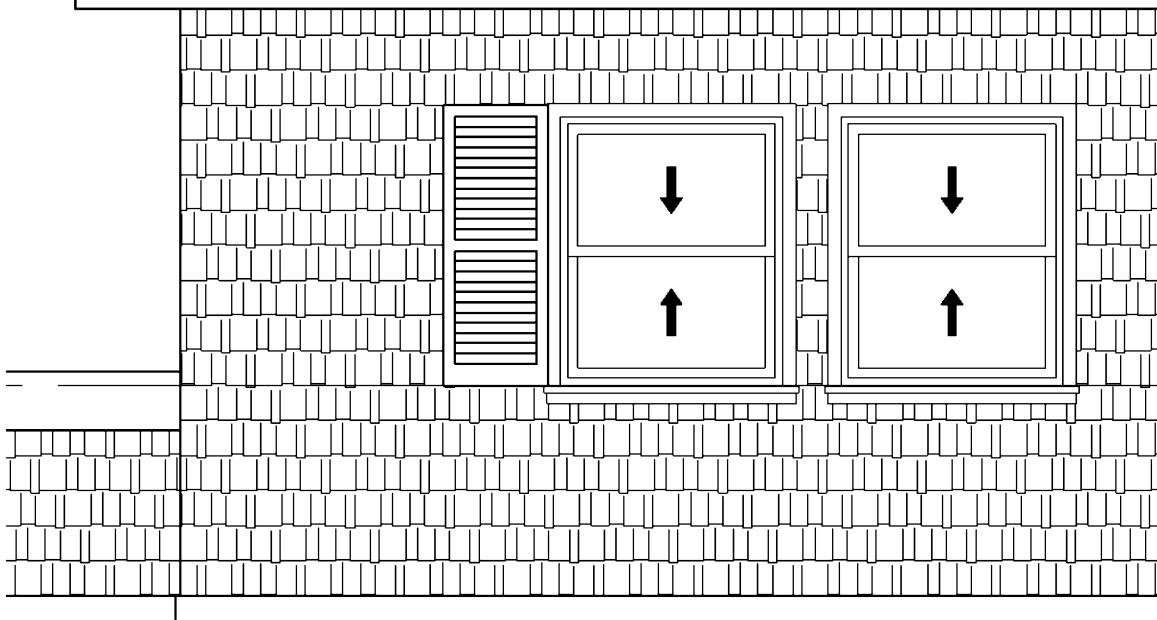

FIGURE 10-2.7 Placing a shutter on the North elevation
17. With the **Component** tool active and **Shutter (high-res): 18" x 48"** selected in the **Type Selector**, place a shutter in elevation as shown in Figure 10-2.7 (upper-left window on North Elevation).